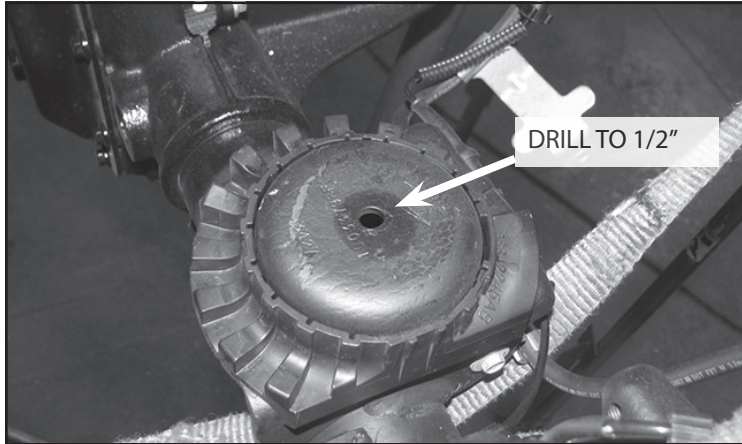

FIGURE 7 - STEP 7
7. On the factory coil spring perch. Use a drill with a 1/2" drill bit and drill out the existing factory hole on both driver & passenger sides. SEE FIGURE 7